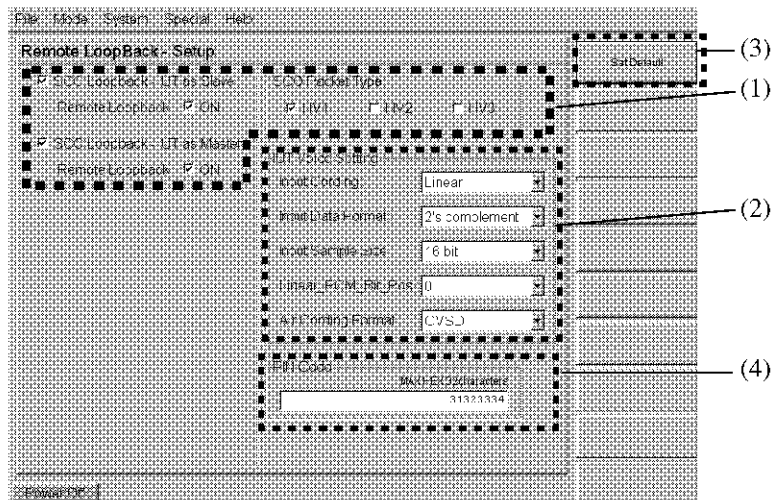

Figure 2-44 Remote Loopback Setup Window (Default Setting)
2. When the Remote Loopback evaluation window is displayed, select **Mode** in the main menu and then select **Setup** in the drop down menu to display the setting window. (Figure 2-44)
Figure 2-44 shows the default setting.
Setting the SCO (Figure 2-44 (1))
Setting the IUT voice (Figure 2-44 (2))
PIN Code (Figure 2-44 (4))